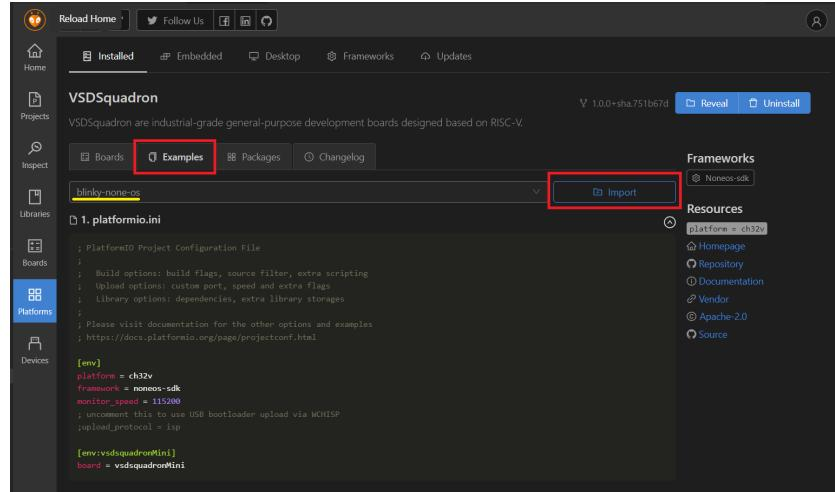

Figure 10: VSCode GUI highlighting "Examples" and "Import" buttons
- Click on "Examples" as shown in Figure 10
- Click on "Import" as shown in Figure 10